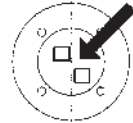

Fig. 2
- Zero point** by potentiometer, lacquer sealed white (Fig. 2)
- Rate-of-rise** by potentiometer, lacquer sealed red (Fig. 2), +/- 10 % of the effective output signal can be adjusted under corresponding pressurization.
- Adjust zero point output signal at zero point potentiometer (lacquer sealed white, Fig. 2).
- Apply desired higher pressure and adjust output signal at rate-of-rise potentiometer (lacquer sealed red, Fig. 2).